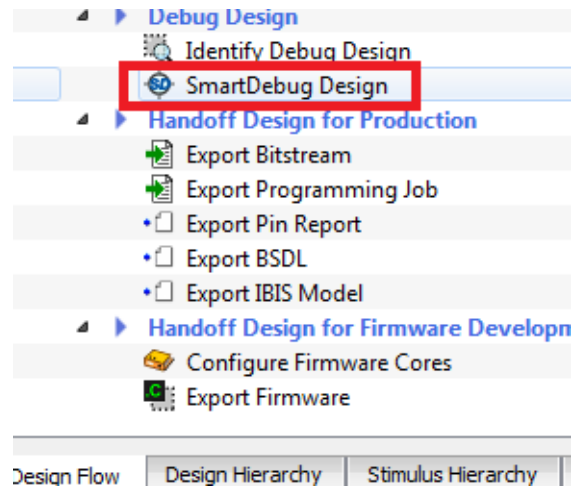

Figure 22 • SmartDebug Design Option in Design Flow Window
1. Launch SmartDebug by selecting the SmartDebug Design option from the Design Flow window as shown in Figure 22. The SmartDebug window is displayed.